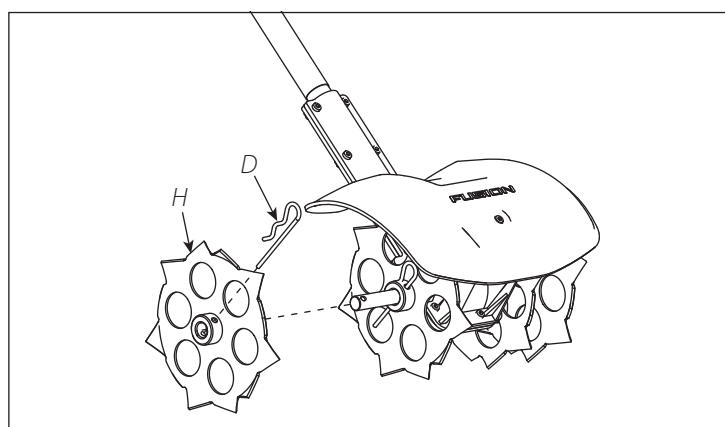

FIGURE 3
4. Assemble four tines (H) to transmission assembly with four hair pins (D). **SEE FIGURE 3**
SEE FIGURE 3